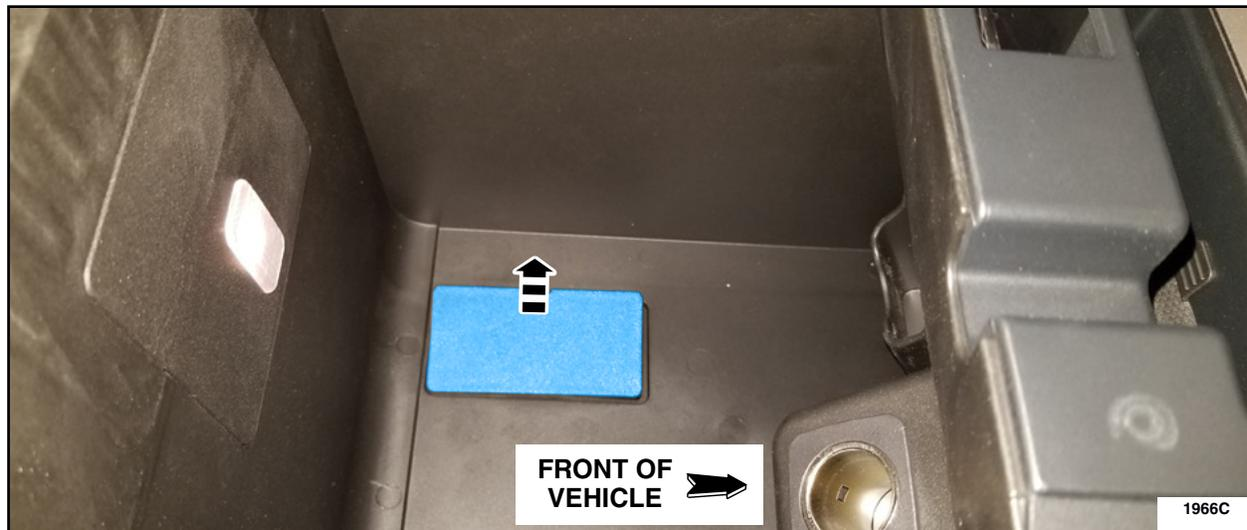

FIGURE 3
4. Remove the MPR cover. See Figure 3.